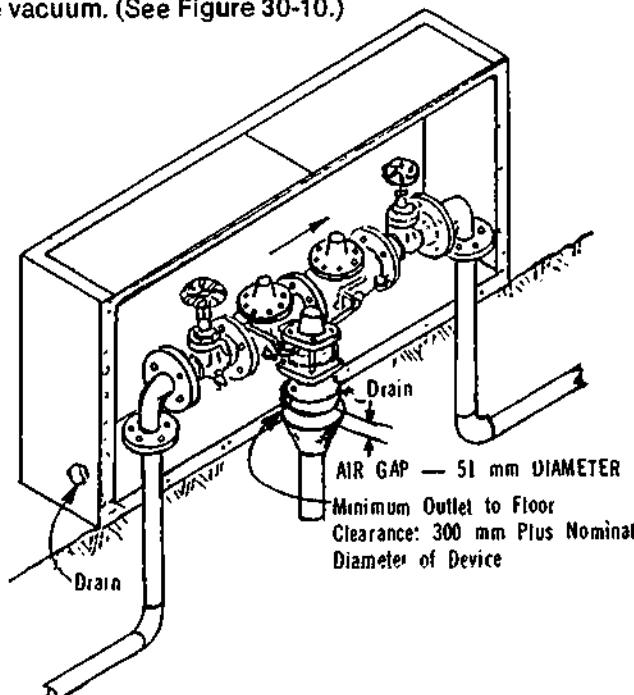

Figure 30-11. Reduced Pressure Type, Also for Double Check with Pressure Type Vacuum Breaker
56. Double check valve units may be installed in a chamber below ground level. Adequate drains must be provided to keep the pit free from water, and the unit must be protected against freezing. (See Figure 30-11.)